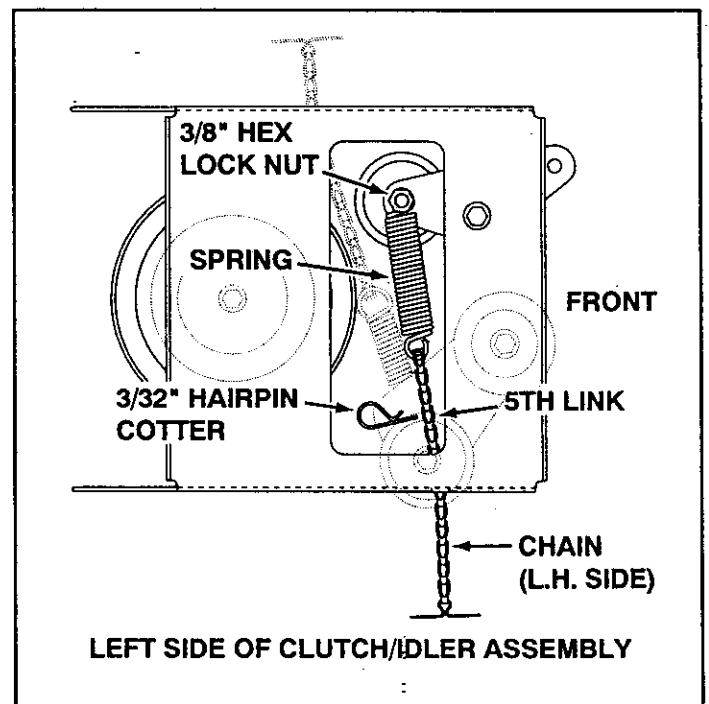

FIGURE 13 VIEWED FROM UNDERNEATH
- Hook the extra spring through the end of the tensioning chain. See figure 13.
- Assemble the spring and a 3/8" hex lock nut onto the bottom of the bolt and nut which secures the idler pulley to the upper idler arm. Hold the bolt head and tighten the 3/8" hex lock nut, leaving it loose enough for the spring to pivot freely between the two nuts. See figure 13.
- Attach a 3/32" hairpin cotter to the chain, placing it in the fifth link from the spring. See figure 13.